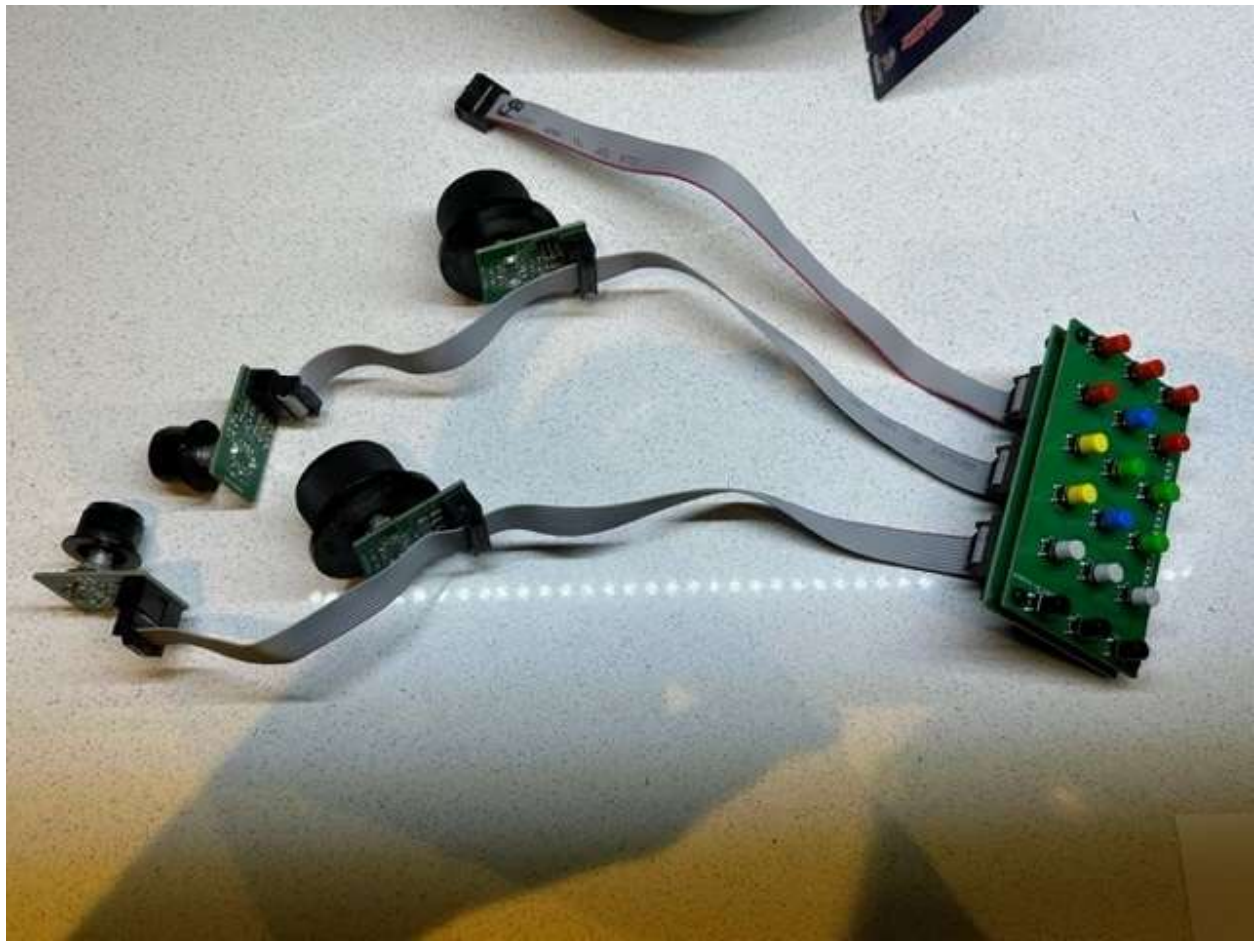

Figure 3. Completed Front Panel Board.
17. Make a cable to connect the Front Panel boards to the T41 Main Board Tune/Filter connector (Front Panel on the V012 Main Board). See Figure 3.